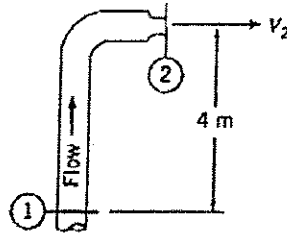

Fig. Q5
5. Water flows steadily up the vertical 0.1 m diameter pipe and out the nozzle as shown in Fig. Q5, which is 0.05 m in diameter, discharging to atmospheric pressure. The stream velocity at the nozzle exit must be 20 m/s. Calculate the minimum gage pressure required at section 1. If the device were inverted, what would be the required minimum pressure at section 1 to maintain the nozzle exit velocity at 20 m/s? [9 M]